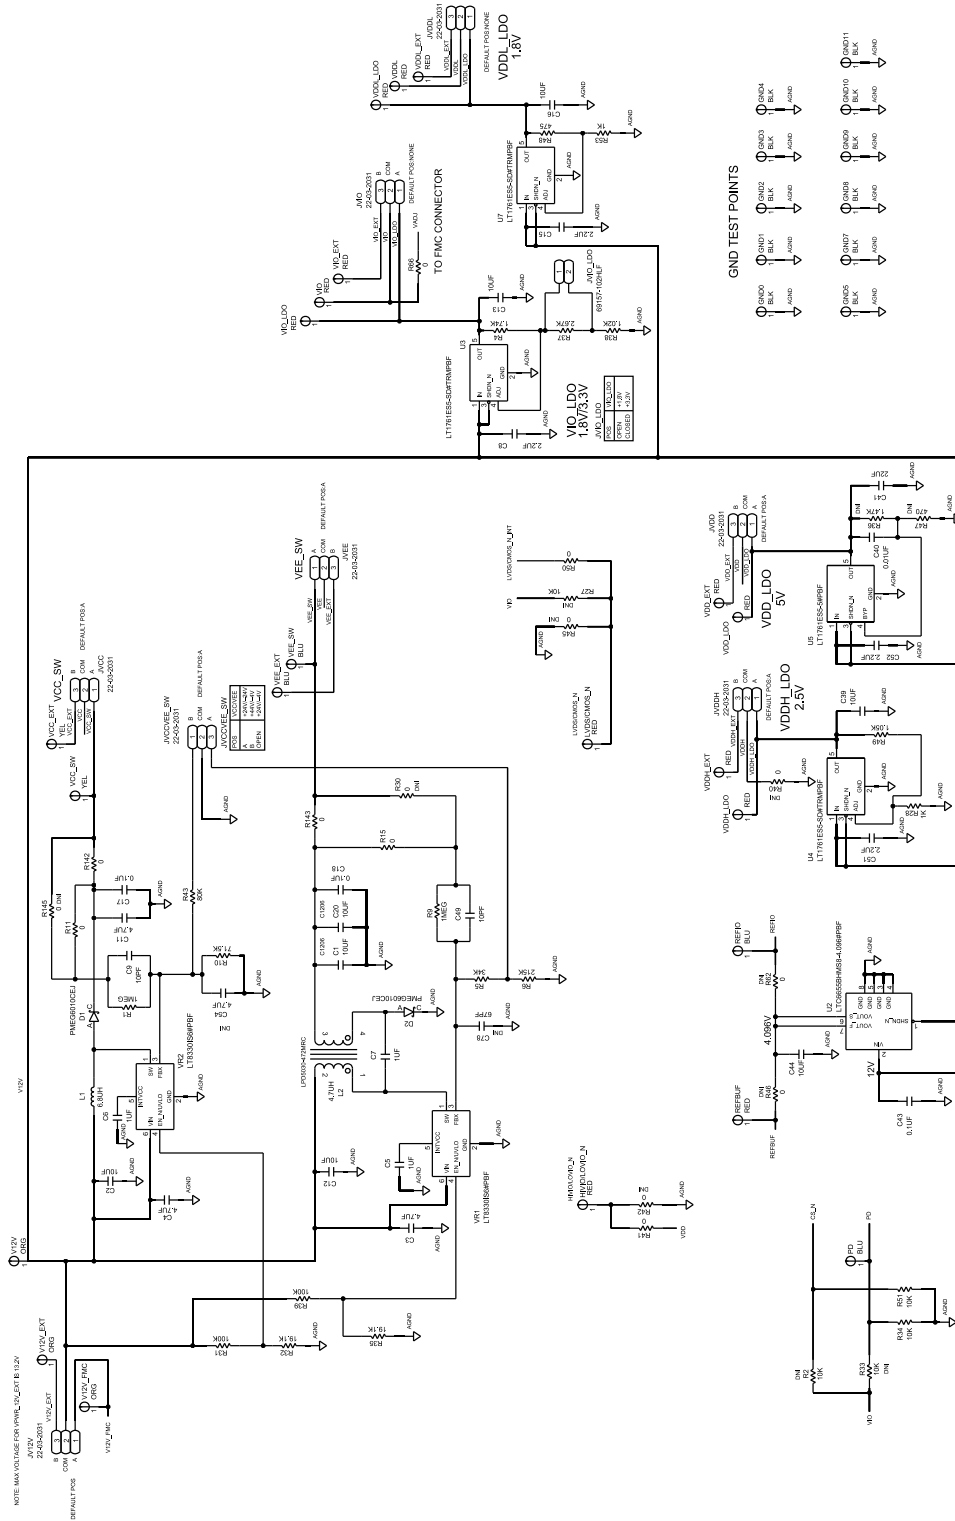

Figure 7. Power Solution Schematic
- ▶ External reference with internal buffer. For this configuration, connect the external reference to the REFIO pin and populate the R62 resistor shown in Figure 7.
- ▶ External reference with disabled internal buffer. For this configuration, connect the external reference to the REFBUF pin and populate the R46 resistor shown in Figure 7 and also connect the REFIO test point to ground.